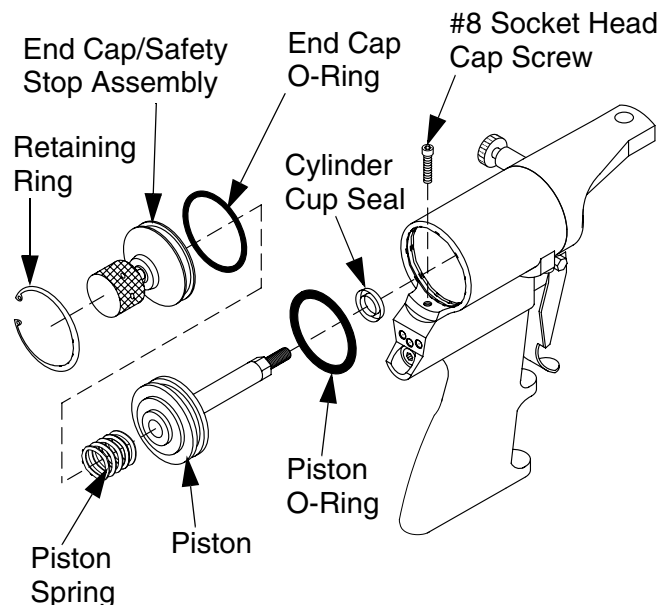

FIG. 16: End Cap and Air Piston Assembly
6. Use 9/64 in. ball point hex key to remove socket head cap screw that holds air cylinder to handle (FIG. 16).